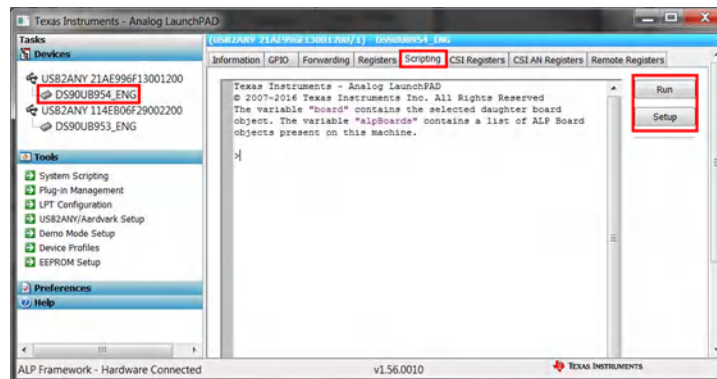

Figure 3-36. Navigating to DS90UB954 (or variant) Scripting Tab in ALP
1. Open the DS90UB954 (or variant) device window by double clicking the profile and selecting to the scripting tab as shown in Figure 3-36.